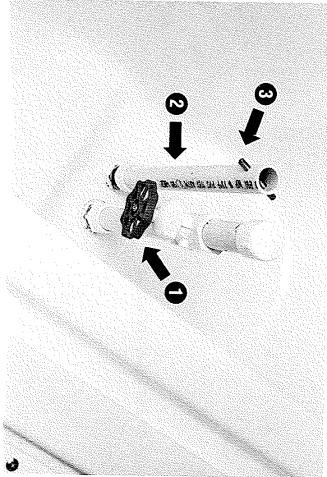

Figure 13
1. While the boat is running, remove the drain tube (2) from the bottom of the baitwell. To remove the drain tube, turn the rod (3) counterclockwise. See figure 13.